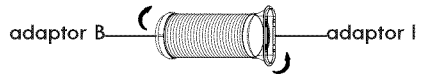

Fig.16a
1. Screw adaptor B and adaptor I onto the exhaust hose as shown in Fig. 16a.